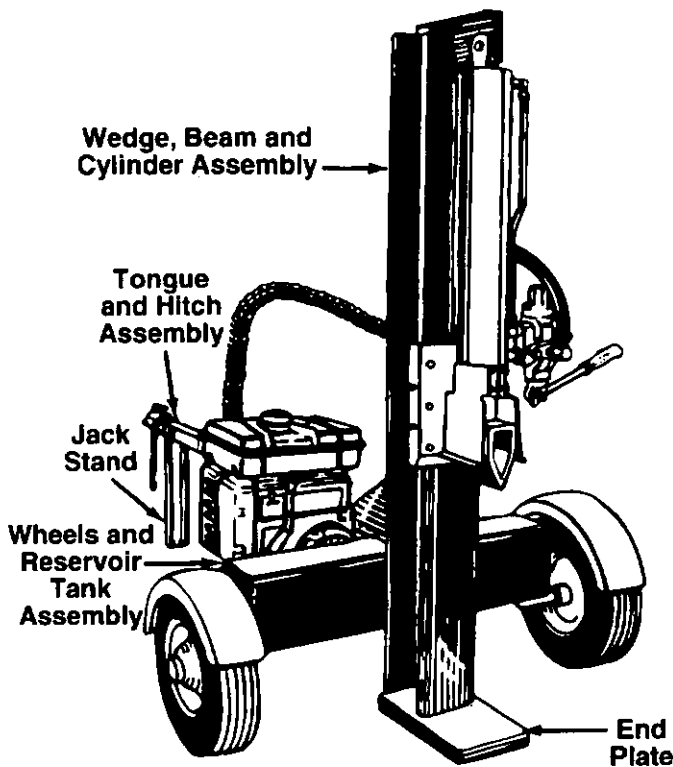

FIGURE 1.
- Rotate the wedge, beam and cylinder assembly 90° so the end plate (refer to figure 1) is off the wooden pallet. Stand the wedge, beam and cylinder assembly upright, with cylinder to the top.
- The jack stand is attached to the tongue, and is in the transport position. Remove the spring pin and clevis pin. Pivot the jack stand to the operating position (90°), and secure with the clevis pin and spring pin. Refer to figure 1.